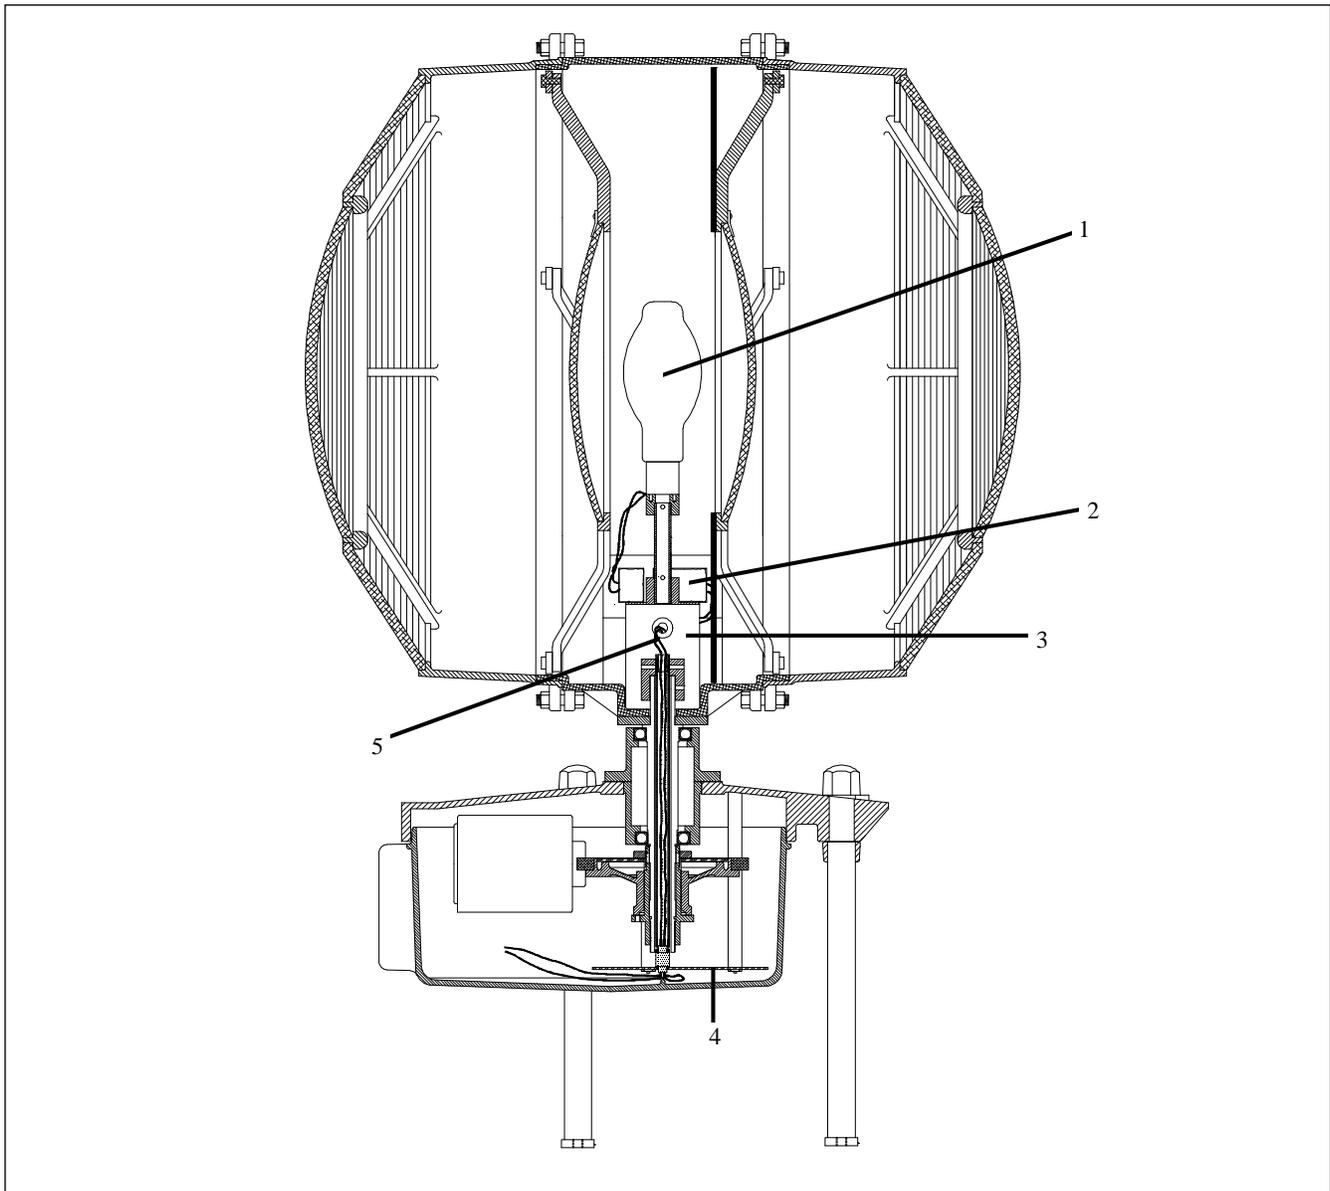

Figure 11. Removing Shield
2. See Figure 11. Open the other access door and remove the screws securing the ballast heatshield (3) and remove the shield.
6. See Figure 11. Turn the plate so that the shoulder on the PRC bushing (pre-installed in the plate at the factory) will be against the PRC when the plate is installed. Slip the PRC mounting plate assembly (4) over the three all-thread studs and secure with the three hex nuts. Thread the nuts on just enough to keep the plate from falling off the studs.